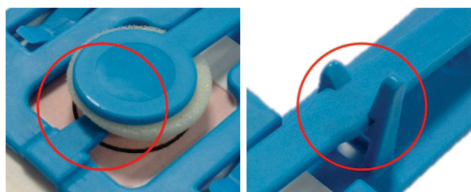

Figure 7. Correct foam head position for device transport.
- Ensure the stem lock is in the upper position as shown when drying, and that the foam head has been released fully from underneath the head tab (Figure 7).